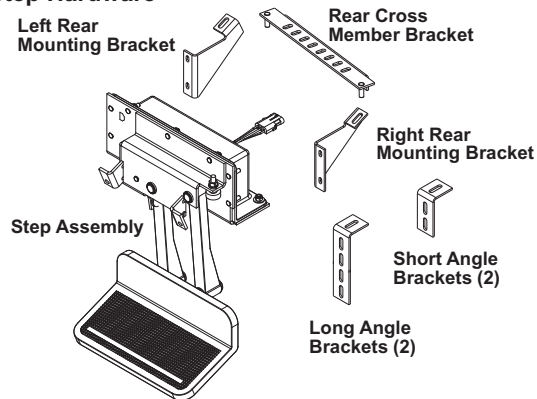

Figure 1
Step 1) Attach the rear brackets to the step as shown in **Figure 1**, using a washer (E), and nut (I) on each stud. Tighten each nut.